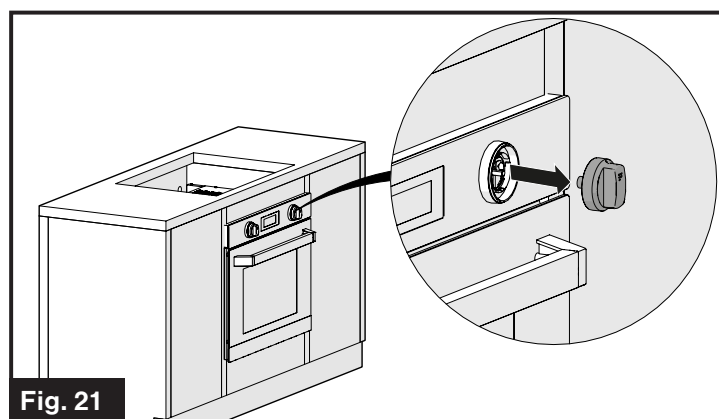

Fig. 21
- Grasp and pull out the control knob with the broken LED light. (Fig. 21)